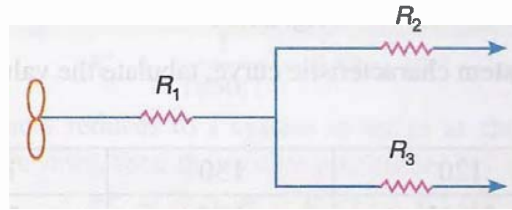

Fig. 21.13
**Example 21.5.** A fan delivers air to a system as shown in Fig. 21.13, where  $R_1 = 50$  mm of water for a volume flow of  $180$  m3/min and  $R_2 = R_3 = 17.5$  mm of water for a volume flow of  $60$  m3/min. The fan performance is as follows :